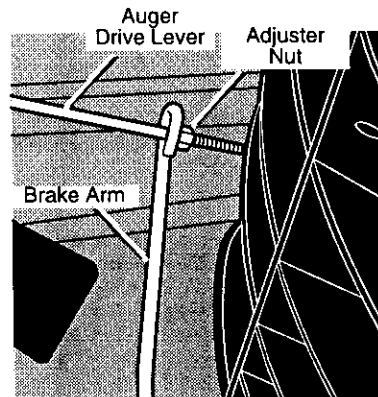
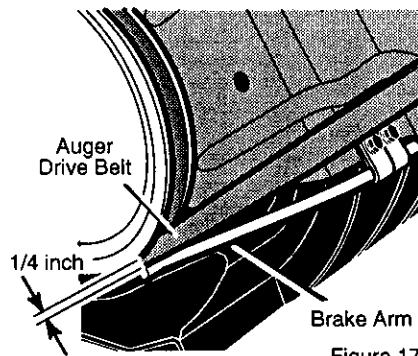

Figure 16
Figure 17
4. Turn the **adjuster nut** (See Figure 16) in or out until the **brake arm** is in contact with the **auger drive belt** (See Figure 17).
6. In correct adjustment, there will be **1/4 inch** clearance between the **brake arm** and the **auger drive belt** when the auger drive lever is engaged (See Figure 17).